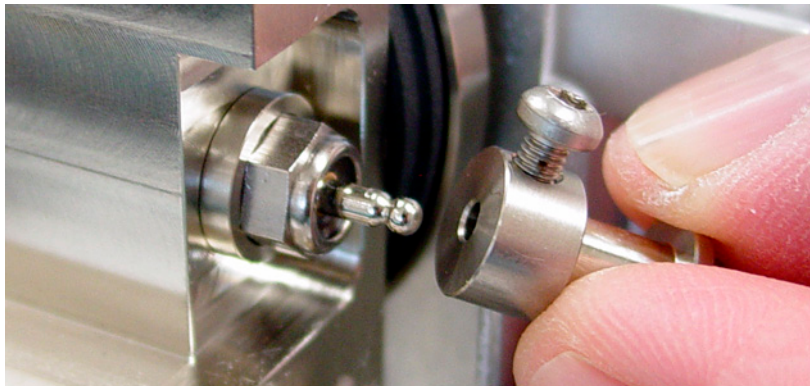

Figure 40 Connecting the ignitor cable
- 8 Replace the ignitor collar and cable assembly (Figure 40). Some collars have two screws.